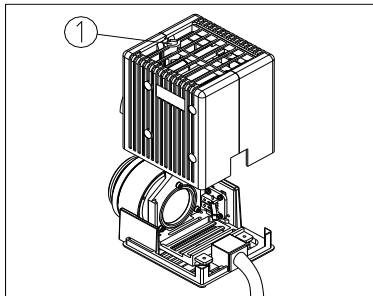

Fig.4
(1) Loosen the lock screw (1) with the M4 inner hexangular spanner which is equipped with the microscope, to take off the cover group (See Fig. 4).